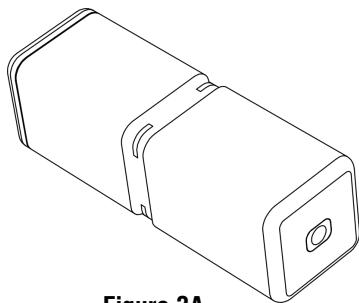

Figure 3A
- 3.1 Custos WWD Main Unit x 1 "Figure 3A"